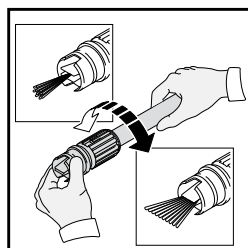

Fig. 9
- When using the adjustable spray lance, the spray pattern and intensity can be controlled according to power of water needed for each task by twisting the spray nozzle at the far end of the lance (Fig. 9). These can be used for sweeping leaves or debris from flat surfaces or curbing. This lance has the widest variety of applications as the fan degree allows for good impact pressure *and* cleaning coverage.